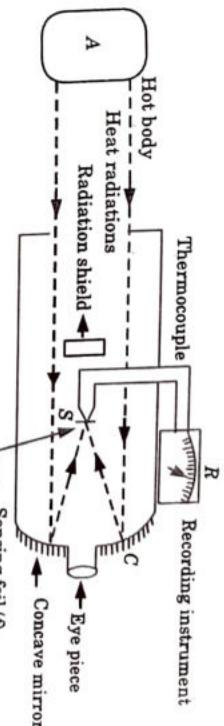

Fig. 4.11.1. A simplified form of radiation pyrometer.
- Radiations coming from the hot body A are focusing on the sensing elements through a concave mirror C as shown in Fig. 4.11.1.